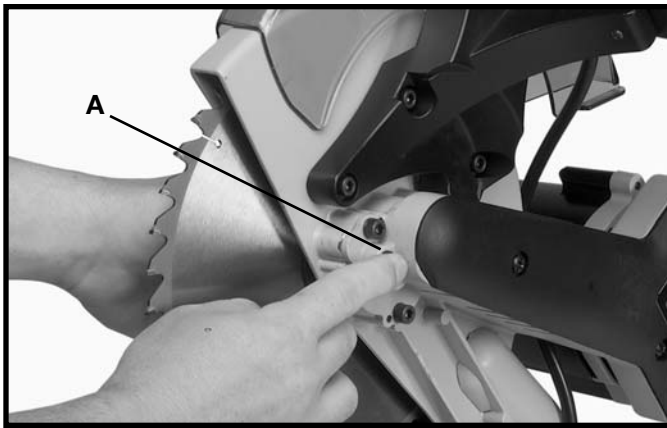

Fig. 47
3. Depress the arbor lock (A) Fig. 47, to keep the blade from turning.